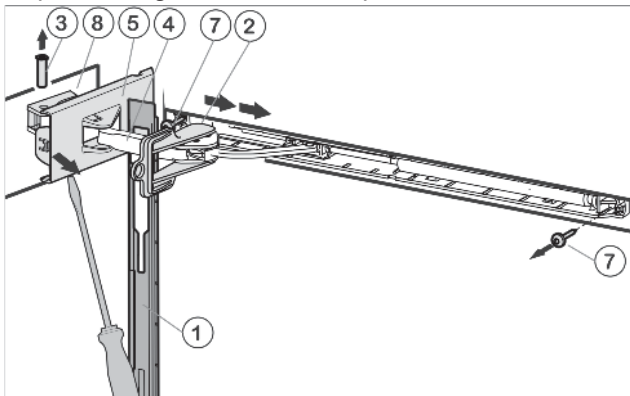

Fig. 12
- ▶ Push panel forwards over the damper bracket Fig. 12 (4) in the direction of the appliance.
- ▶ Engage locking device Fig. 12 (2) into place inside oblong hole.
- ▶ Unscrew cover that is on the hinge side Fig. 12 (5) until the first notch using a screwdriver.
- ▶ Push bolt Fig. 12 (3) out from below.
- ▶ Press damper bracket Fig. 12 (4) in the direction of the door.
- ▶ Completely loosen cover that is on the hinge side Fig. 12 (5) and remove.
- ▶ Remove panel Fig. 12 (1).
- ▶ Unscrew soft stop unit (2 x Torx 15) Fig. 12 (7).